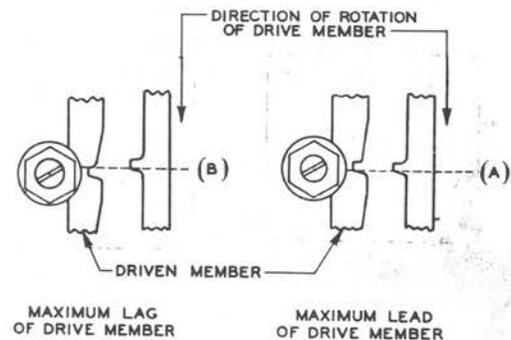

Fig. 9—Alignment of Jaws—Later Arrangement of Intermittent Clutch
- (5) Apply and maintain a slight pressure while checking the requirement by rotating the handle clockwise.
- (g) **Intermittent Clutch Alignment:** With the perforator in the home position (1.05) and the eccentric camshaft dial indicating 150 (and 330) degrees, the jaws of the intermittent clutch drive shall not lead or lag the driven jaws by more than the amount shown in Fig. 9, (A)